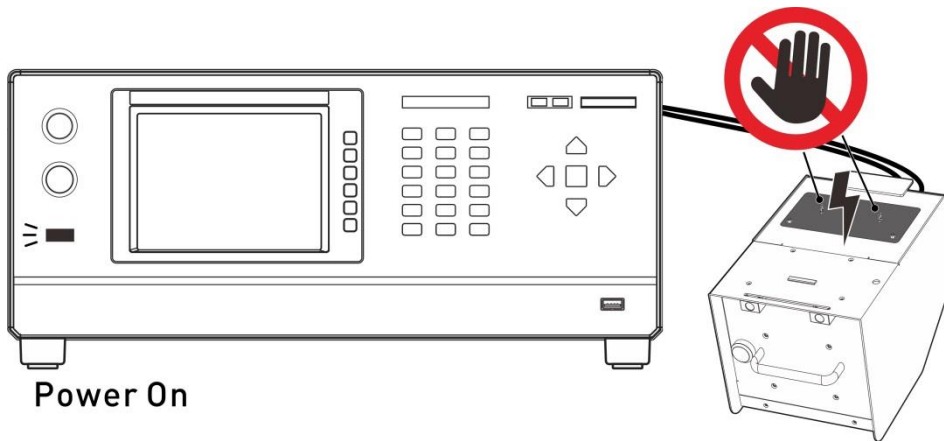

Figure 3-3 No Touch When Outputting High Voltage
**⚡ CAUTION** : Do not touch the high voltage module probe and the black fiberglass as shown in Figure 3-3. When the host is in testing state, it may cause hazardous due to not enough insulation.